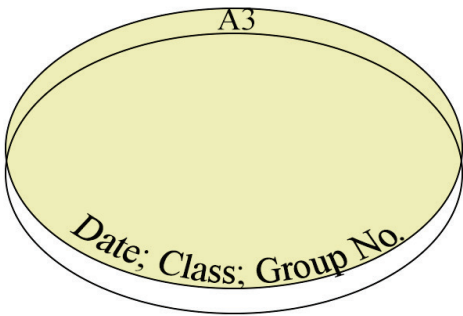

Fig. 9
8. Label 5 LB agar plates A3 (Fig. 9), P3, H3, Amp3, and W3 and with the date of the experiment and your group number.